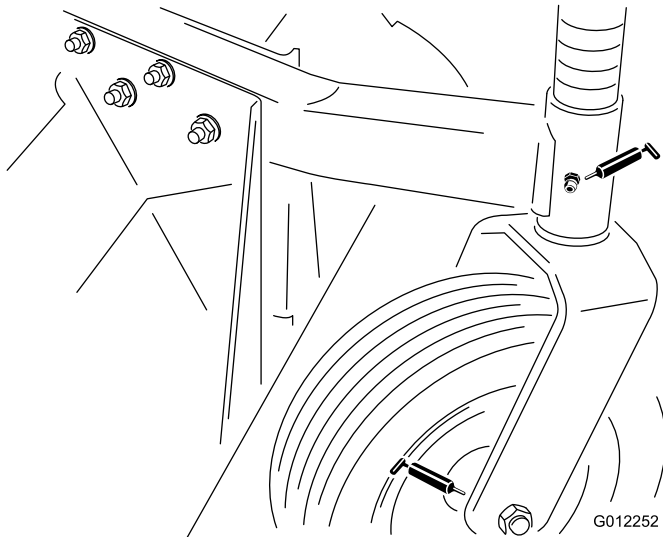

Figure 17
- Castor spindle bushings— 1 each (Figure 17)
- Castor wheel bearings – 1 each (Figure 17)